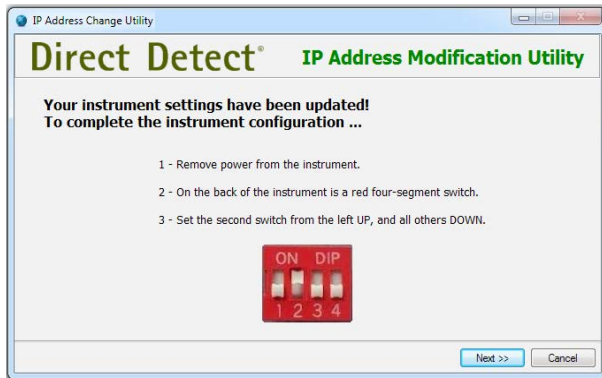

Figure 24. Successful reconfiguration to direct connection
4. The software will now make the necessary modifications to the Direct Detect® software and instrument, as well as the host computer. If the modifications are successful you will be informed that your instrument settings have been updated (Figure 24).
5. Unplug the instrument from the power source, then change the switches in the red 4-position DIP switch (6H in Figure 6) on the rear of the instrument so that the second switch from the left is in the UP position, and all other switches are in the DOWN position (refer to Figure 24).